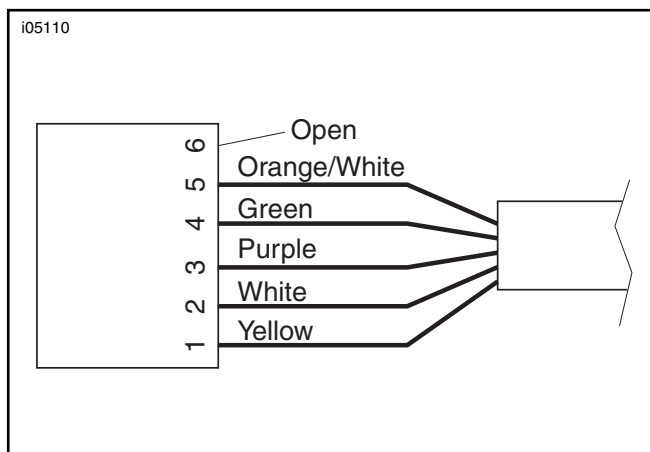

Figure 2. Connection Diagram
3. See Figure 2. Insert the terminals into the connector half as shown.